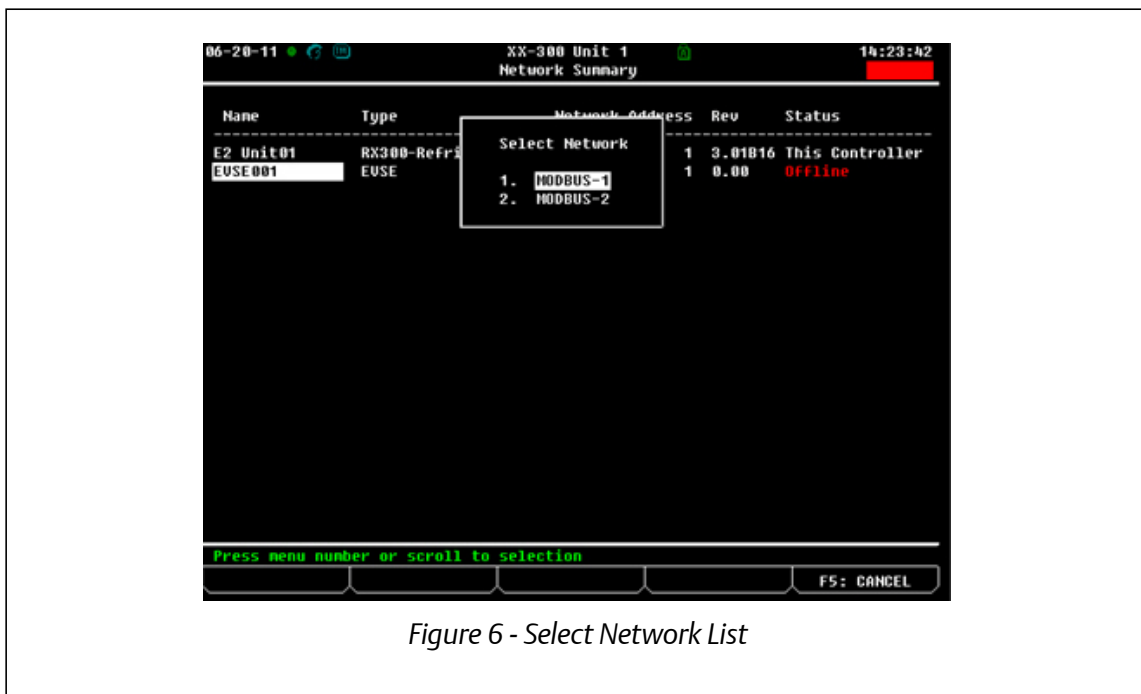

Figure 6 - Select Network List
3. On the *Network Summary* screen, highlight the device name, press **F4** (*COMMISSION*), and select the preferred MODBUS Network (**Figure 6**). (Note that multiple MODBUS Networks appear in the list if more than one serial ports were setup initially.)